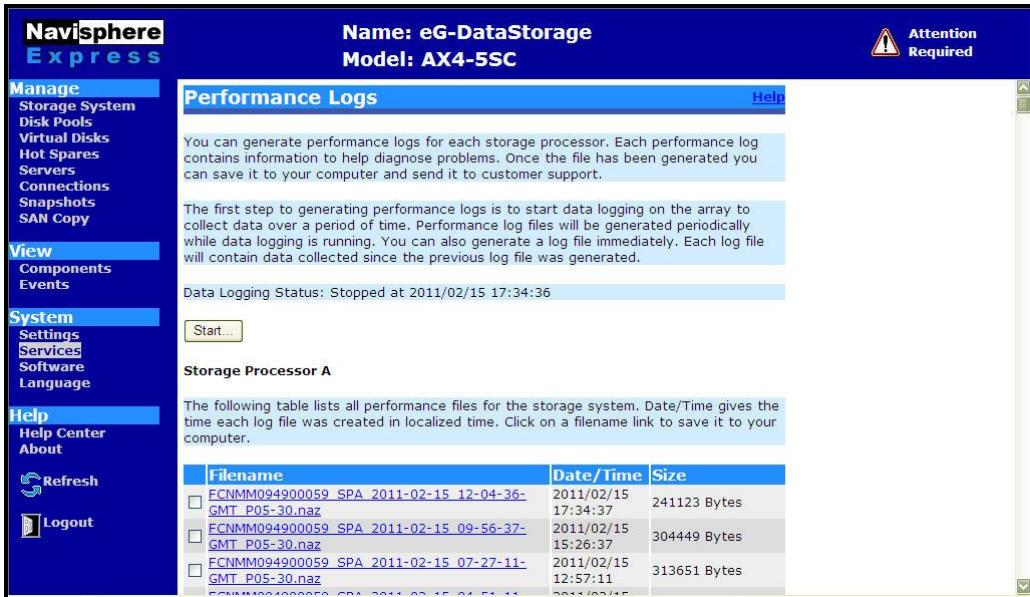

Figure 1.8: Starting data logging
7. In the **Performance Logs** page that then appears (see Figure 1.8), click on the **Start** button to begin data logging.